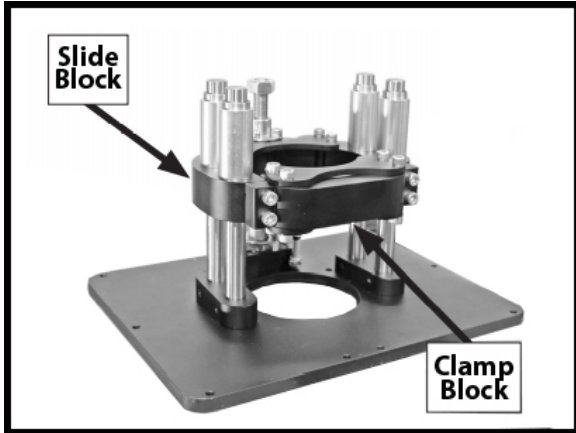

Figure 36
2. Remove the lift assembly from the router table and place it upside down on two blocks of wood (Fig.36) so the router collect is able to extend through the hole in the insert plate.
3. Loosen the (4) cap screws that secure the clamp block to the slide block. (Fig.36)